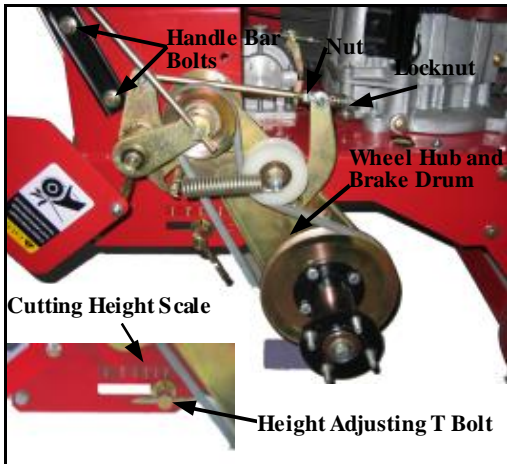
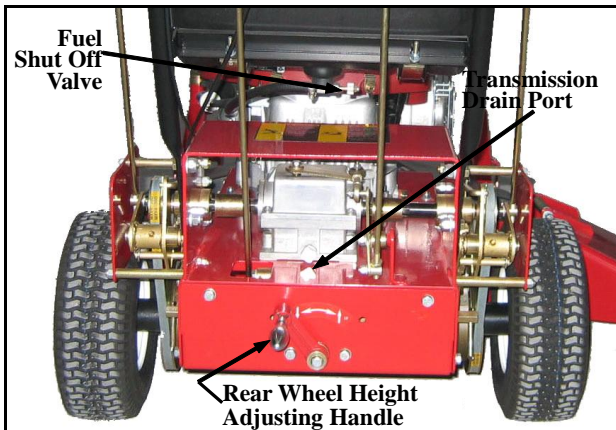

FIG 11 Brake Linkage
FIG 15 Rear Wheel Height Adjustment
### WHEEL BRAKE ADJUSTMENT FIG 11
5. To adjust the Rear Wheel settings refer to FIG 11. Loosen both height adjusting T-Bolts. Unlock the Rear Wheel Height Adjusting Handle FIG 15. Rotate the Handle clockwise to raise and counterclockwise to lower the Rear Wheels. Align the pointer on the register mark which corresponds with the number of Caster Spacers on the bottom of the Caster Wheel Bracket.